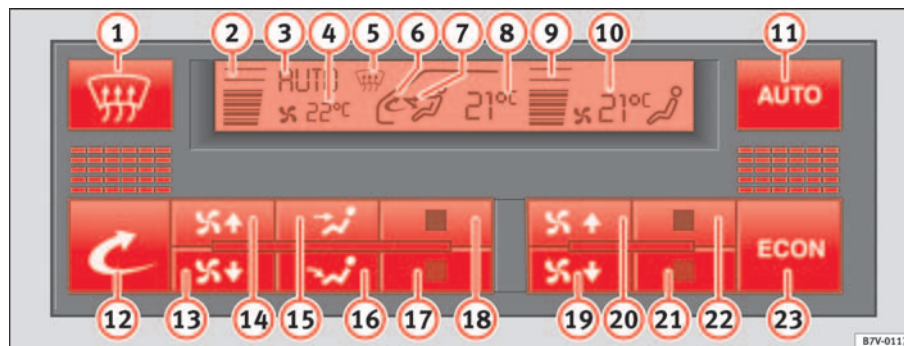

Fig. 120 Detail of the dash panel: Climatronic controls
- The temperature is selected with buttons ⇒ fig. 120 (21) and (22). It remains stored until another temperature is selected.